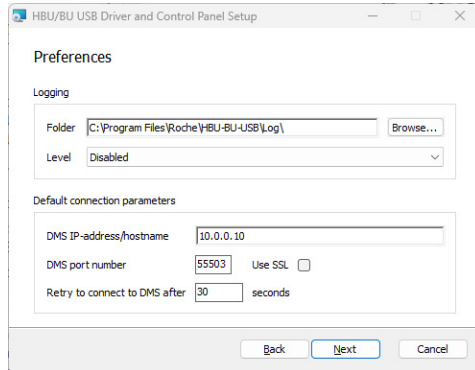
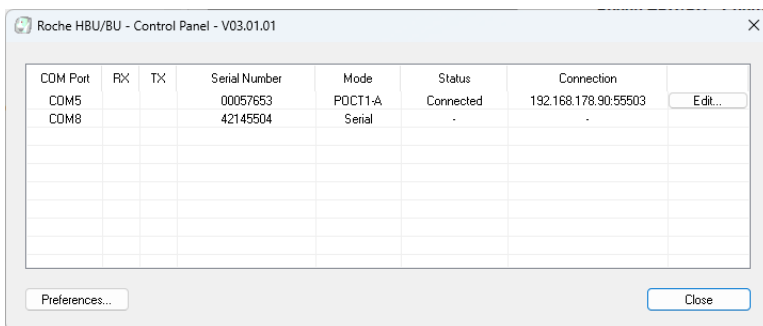
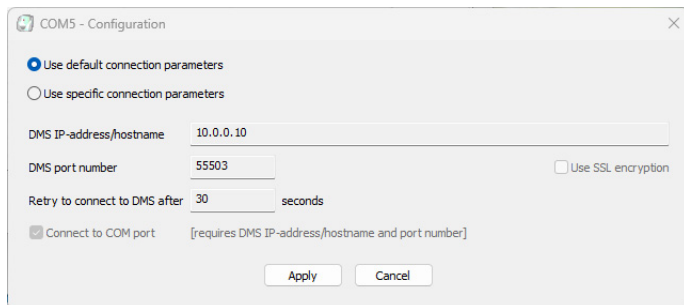
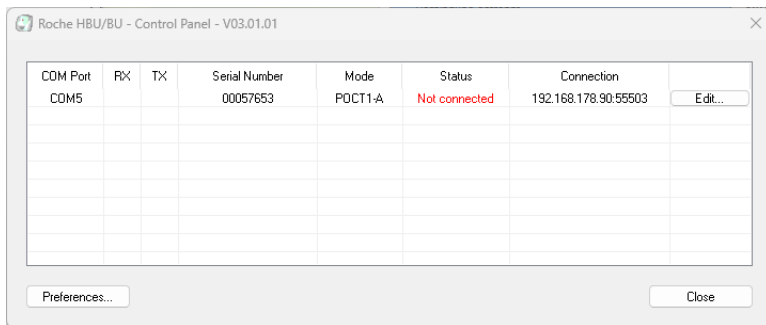

Fig 7-2 HBU/BU USB Driver Setup (Installation) flow - setting the preferences
Fig 7-3 Roche HBU/BU - Control Panel - List of all connected HBU/BUs (via USB Comm)
Fig 7-4 Roche HBU/BU - Control Panel - Configuration screen for specific COM Port (POCT1-A mode only)
Fig 7-6 Roche HBU/BU - Control Panel - Configured but not yet connected COM Port in POCT1-A mode (DMS not yet listening or TEPI not connected)
If the mode 'Serial' was chosen, and indicated in the HBU/BU control panel (see Fig 7-3 for COM8), it is possible to communicate from the local PC with a device docked in the HBU via the respective COM port. A bidirectional communication is possible (using the Roche specific communication protocol), depending on the respective device located in the HBU and its related communication settings. Note: The baud rate configured with the virtual COM port will be automatically identified by the HBU and applied to its own SIR baud rate settings.
If the mode 'POCT1-A' was chosen, the control panel application offers an extended functionality, by providing a 'gateway service' to a remote server (e.g. point of care data management system - DMS or TEPI platform) that is located in the connected network (e.g. hospital network). In order to connect to a remote server, the respective network information needs to be configured. Whether configuration was successful or not is indicated by the field 'Connection', which can contain the values 'Not configured' (see COM9 in Fig 7-3) or network specific settings (such as ip / hostname : port number) in case a configuration was applied (see Fig 7-6). A configuration of these parameters can be achieved by either defining default values during installation of the Control Panel application (see Fig 7-2) or by pressing the 'Edit' button, which allows the individual definition of network parameters for the connected HBU/BU in Mode 'POCT1-A' (see Fig 7-4).
- 'Not connected' (in red letters) → COM port opened, but DMS connection down (see Fig 7-6)
The preferences screen will appear once during (non-silent) installation of the USB driver and Control Panel application (see Fig 7-2). It is also possible to access the preferences screen via the main screen of the Control Panel application (see Fig 7-3) - the settings are identical to those explained with Fig 7-2.